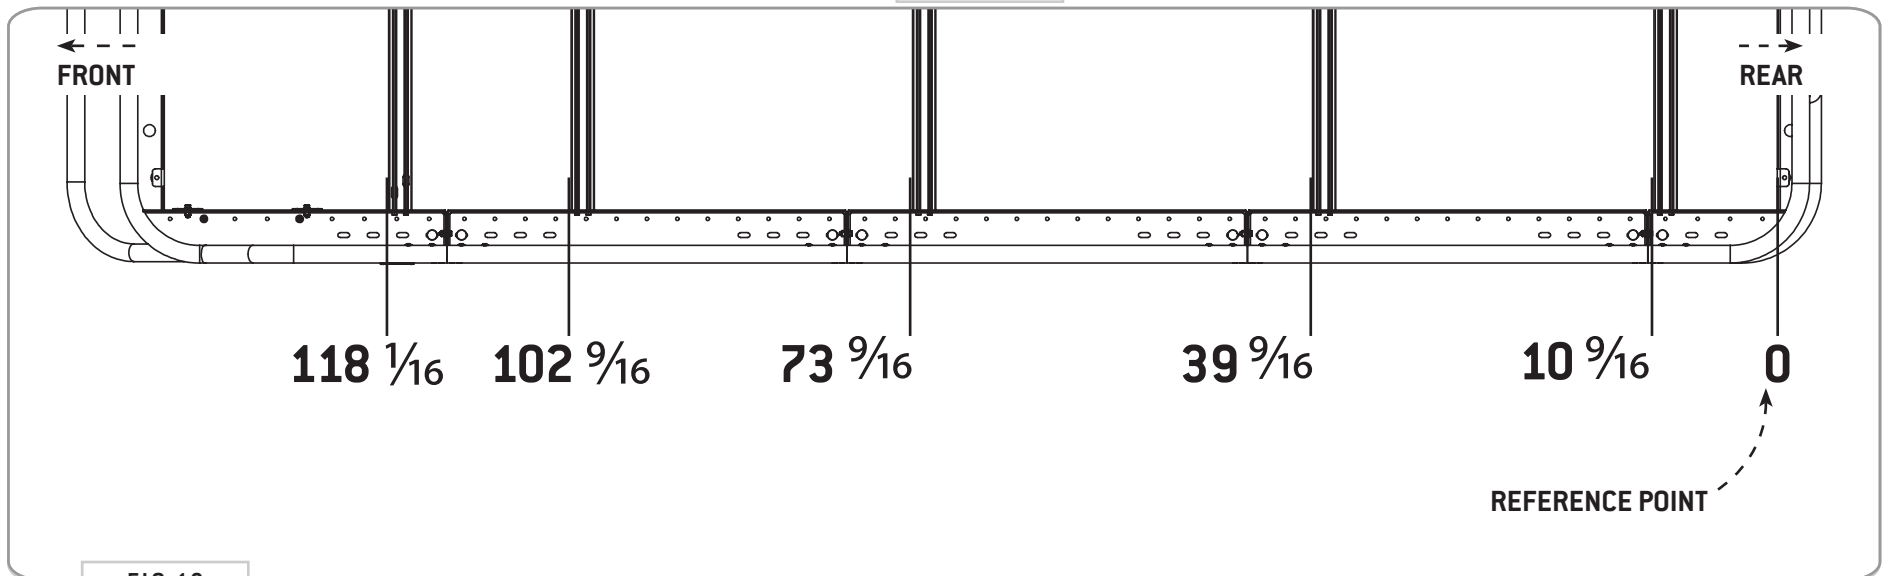

FIG 18
7.1 Attach Crossbars: Using (4ea) 1/4-20 Flanged Hex Bolts with Loctite (FIG 14), attach Crossbars to the rack in the locations shown in FIG 18. Be sure to measure on both sides to ensure that the Crossbars are square.